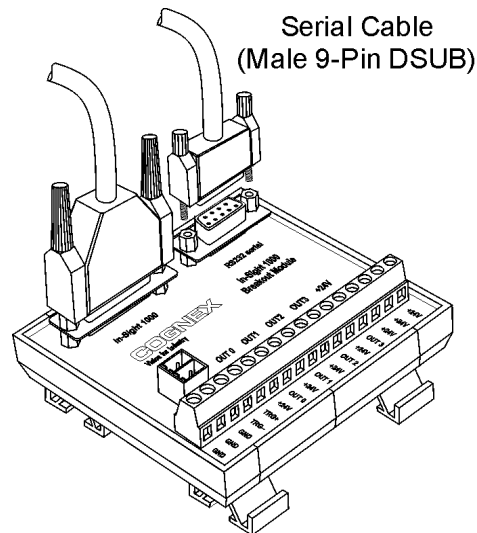

Figure 9. Connecting Serial Cable to 9-Pin Serial Connector
3. Connect a serial device to the Breakout Module's serial connector (9-pin DSUB) labeled RS232 Serial (Figure 9).